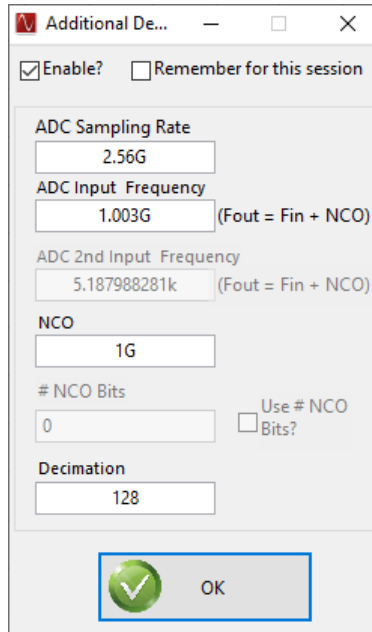

Figure 3-12. Additional Device Parameters , 128x Complex Decimation
13. Check the box labeled *Enable?* and then enter the parameters shown in Figure 3-12.